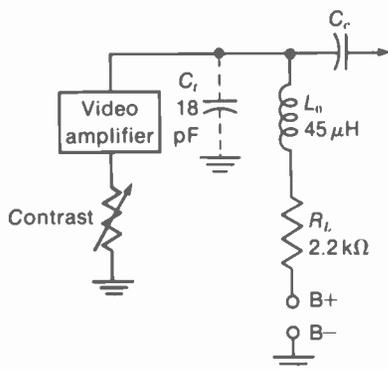

FIGURE 13-22 VIDEO AMPLIFIER WITH SHUNT PEAKING COIL  $L_o$ .
**Shunt peaking.** See Fig. 13-22. This circuit is shunt peaking because  $L_o$  in the branch with  $R_L$  is in parallel with  $C_i$ .  $L_o$  can be connected on ei-